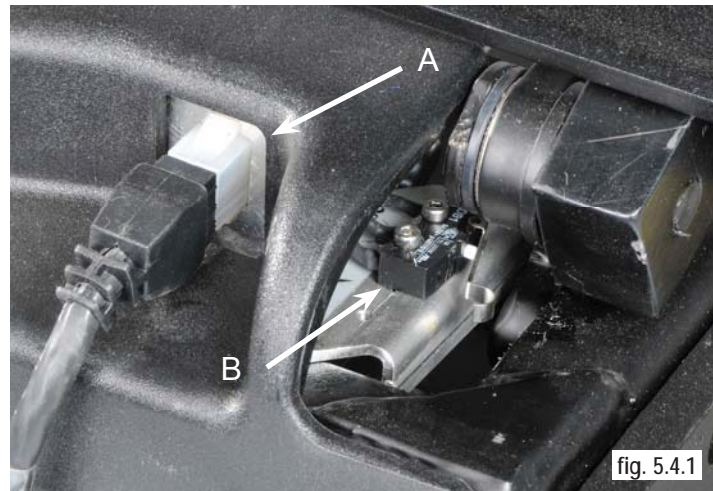

fig. 5.4.1
1. Locate the 6-pin connector (A) at the rear of the tilt (fig. 5.4.1). Make sure it has not been unplugged
2. Locate the creep microswitch (B) mounted at the rear of the actuator (fig. 5.4.1). The creep switch may be seen from the top of the seating system on the right rear of the actuator. It may be necessary to remove the seat pan to access the switch.
5. Locate the 6-pin connector (A) at the rear of the tilt (fig. 5.4.1).